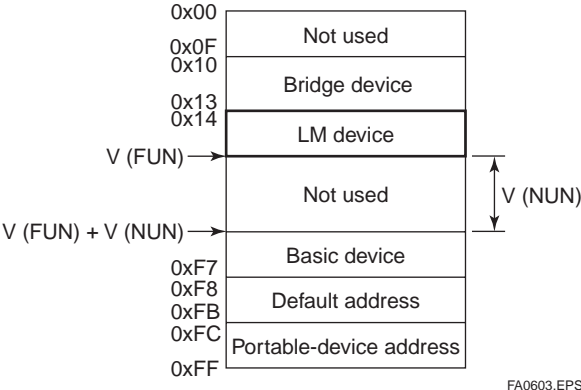

Figure A5-3. Node Address Ranges
- (3) In the LAS settings of the AV550G, set the values of V(FUN) and V(NUN) so that they include the node addresses of all nodes within the same segment. (See also Figure A5-3.)